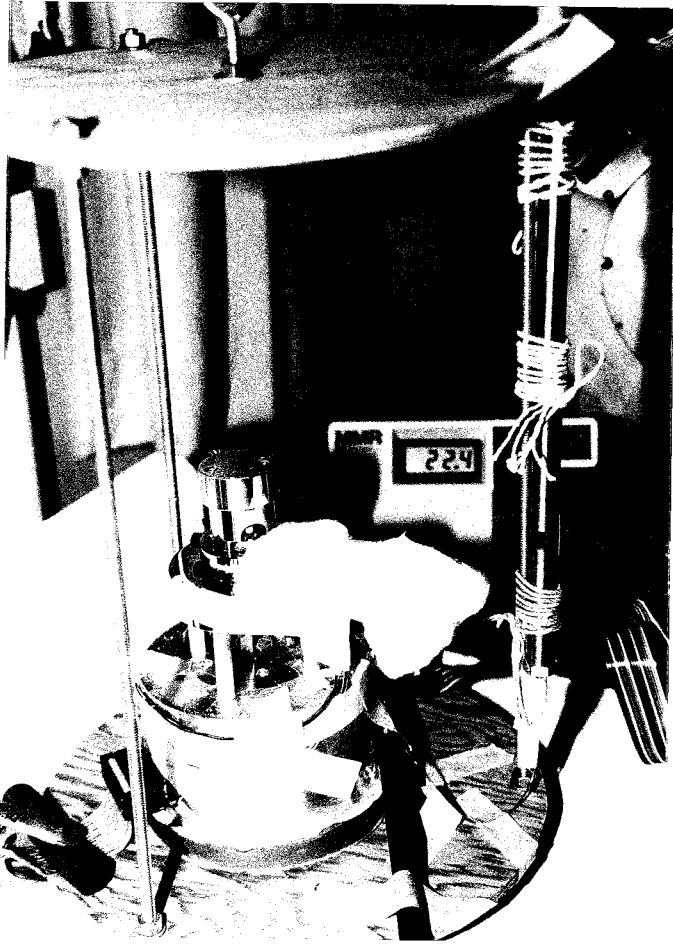

FIGURE 5
- Figure 5:** Photo shows the high pressure filter and gas line feeding to the refrigerator.